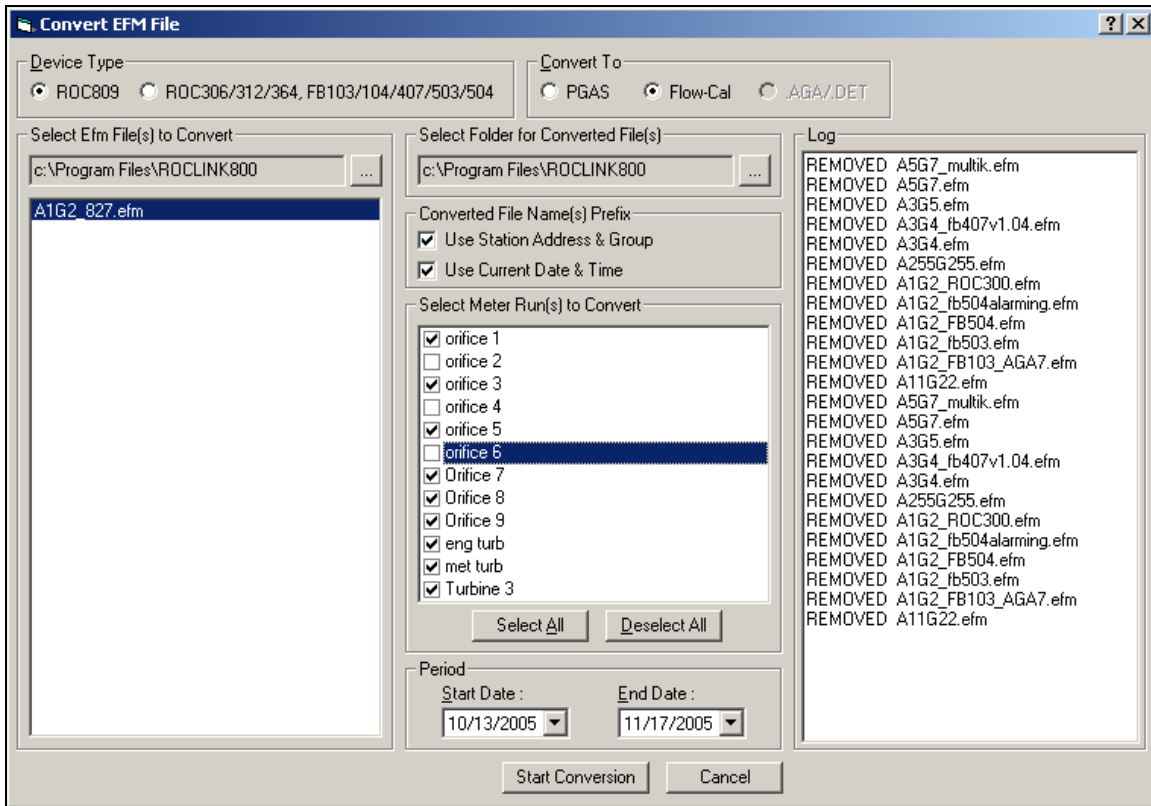

Figure 6-16. EFM Files Select for Conversion and Invalid Files
7. Click **OK**. If this error message displays, the invalid files are automatically removed and display in the Log frame. Refer to Figure 6-16.
8. Select the files from the **Select Meter Runs(s) to Convert** list that you desire to convert. You can individually select files using the checkboxes or you can click Select All to select all of the EFM files in the folder. Click Deselect All to deselect all files in the folder. Refer to Figure 6-16.
11. Select the **Converted File Name(s) Prefix** options to determine the converted file name format. Refer to Figure 6-16.
12. Select the **Period Start Date** and **End Date** to define the time frame for which the conversion of data is performed. The Start Date is automatically post dated thirty-five days prior to the end date. The End Date is defaults to the current date. You can manually enter a date or click the drop-down arrow box to display a calendar and make your date selections. Refer to Figure 6-16.